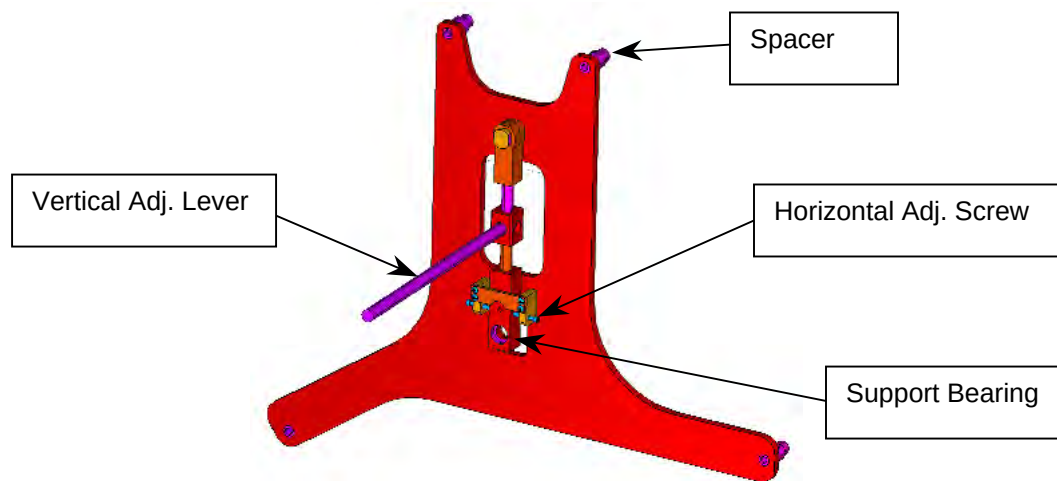

FIGURE 41 – Support Plate
- c) Adjust the Tube Support Plate Assembly's Horizontal Adjustment Screws until the Tube Support Bearing is centered left-to-right. **(FIG 41).**